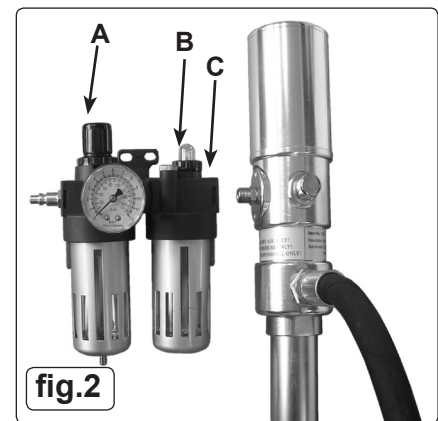

fig.2
- 4.2.1. Apply a small amount of liquid thread sealant onto the threads of the air inlet of the pump and attach the air regulator/lubricator (fig.2).